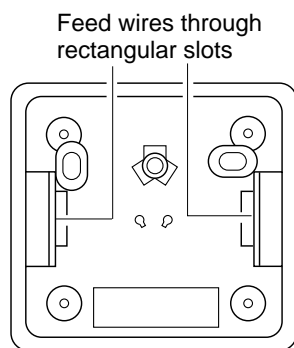

Figure 33 - Back View of Thermostat Base
5. Feed the electrical wires through the rectangular slots on each side of the base (see Figure 33, page 17).